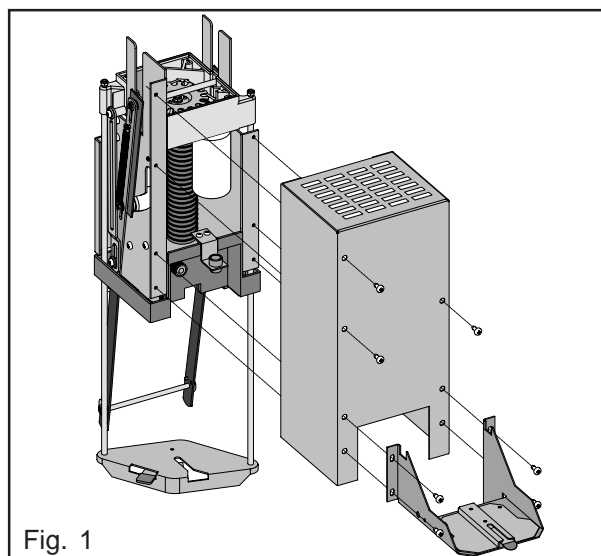

Fig. 1
- Remove the brewer housing. (Fig. 1)